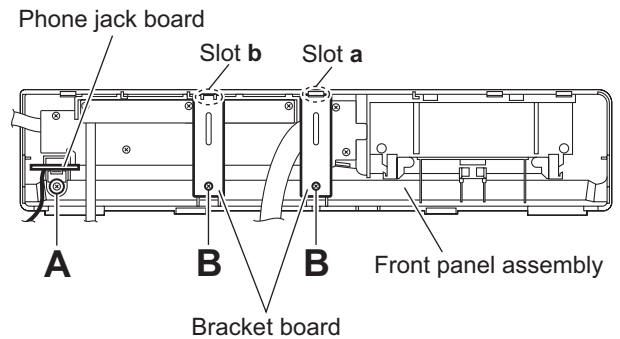

Fig.1
3.2.1 Removing the phone jack board (See Fig. 1)
- (1) From the inside of the front panel assembly, remove the screw **A** attaching the phone jack board.
- (2) Take out the phone jack board from the front panel assembly.
3.2.2 Removing the bracket board (See Fig. 1)